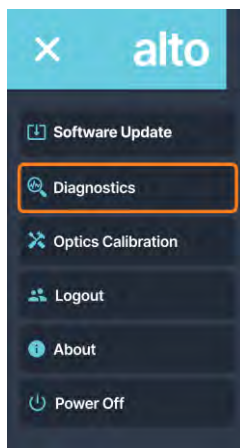

Figure 5.15: Select the “Diagnostics” option in the menu to proceed with the testing.
1. Click on the main menu button of the Alto Control Software to open the menu and select “Diagnostics” as shown in Figure 5.15.